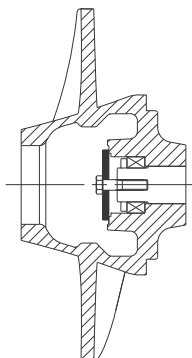

Fig. 65 Mounting of propeller/impeller
1. Fit the propeller (pos. 49).
3. Force the propeller into position using a rectangular piece of metal in order to make sure that the impeller is mounted correctly. See fig. 65.
5. Lubricate and fit the O-ring (pos. 66b) on the Power-lock® cover (pos. 66a).
6. Lubricate and fit the O-ring (pos. 67c) on the support screw (pos. 67).
7. Mount the Power-lock® cover (pos. 66a) and fit the support screw (pos. 67) and tighten it according to section 7. *Tightening torques and lubricants*.
8. Mount the propeller cap (pos. 66), the O-ring (pos. 66c), the screw (pos. 67a) and tighten it according to section 7. *Tightening torques and lubricants*.
1. Mount the water chamber (pos. 77) and fit the screw (pos. 26a) and tighten it according to section 7. *Tightening torques and lubricants*.
2. **KWM 700 M only:** Mount the intermediate ring (pos. 110) and the O-ring (110a).
3. Fit the impeller (pos. 49).
5. Force the impeller into position using a rectangular piece of metal in order to make sure that the impeller is mounted correctly. See fig. 65.